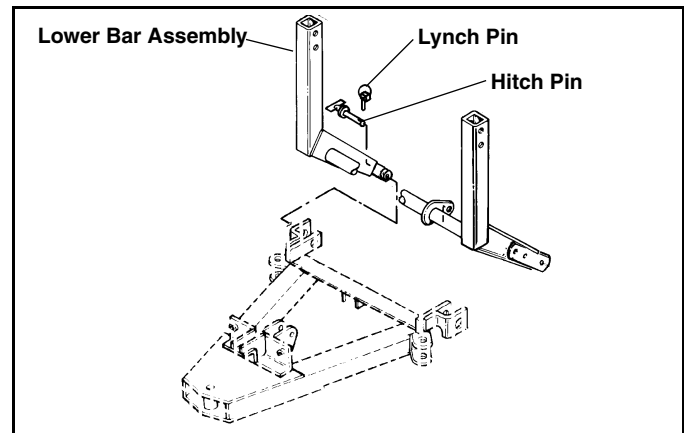

Figure 2
4. Mount Lower Bar Assembly to Main Plow Frame by sliding bosses on Pivot Bars into holes on Pivot Plates. Reuse Hitch Pins and Lynch Pins to locate and secure. (Figure 2)